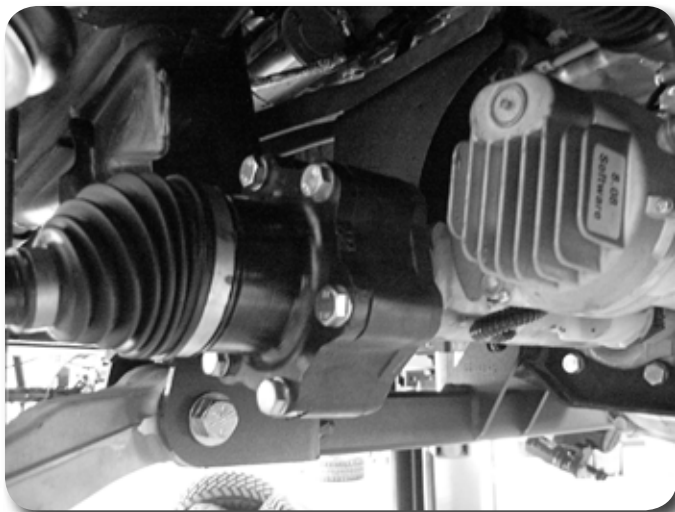

Figure 33
59. Position the provided CV spacer between the CV shaft and the differential mounting flange Figure 33. Fasten the CV and spacer to the differential flange with 10mm x 70mm SHCS bolts. Use Loctite on the bolt threads and torque to 45 ft-lbs using a crossing pattern.